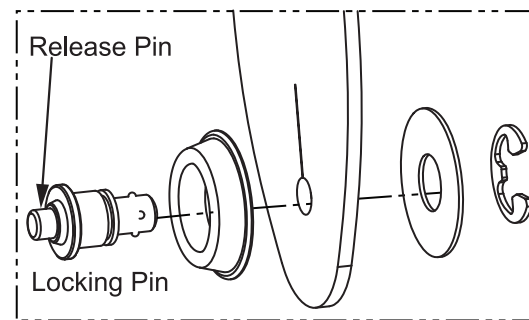
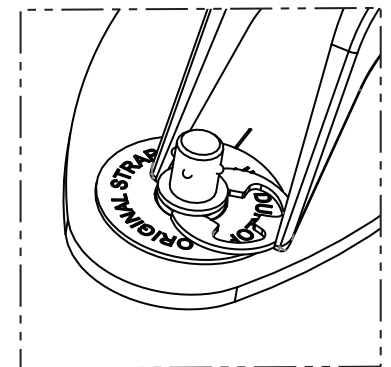

Fig. 2
Fig. 3
2. **Straplok® System:** Your Brent Mason Telecaster comes with a push-button Dunlop® Straplok® system. The Straplok retainers attach through the strap button holes of your strap (see Fig. 2 & 3). Install the Straplok retainer into the neck end of your strap so that the release button is facing you. This end will clip into the ¼" hole in the Bender lever. On the other side of the strap, install the Straplok retainer pointing the opposite way. If you would like not to use the Bender, an auxiliary neck side strap button has been provided. Tip: A strap with a suede or other non-slip underside will make the bender easier to use.
Straplok® Installation: Assemble Straplok system as shown in **Fig. 2**. Once assembled snap C-clip into shank groove on locking pin as shown in **Fig. 3**.